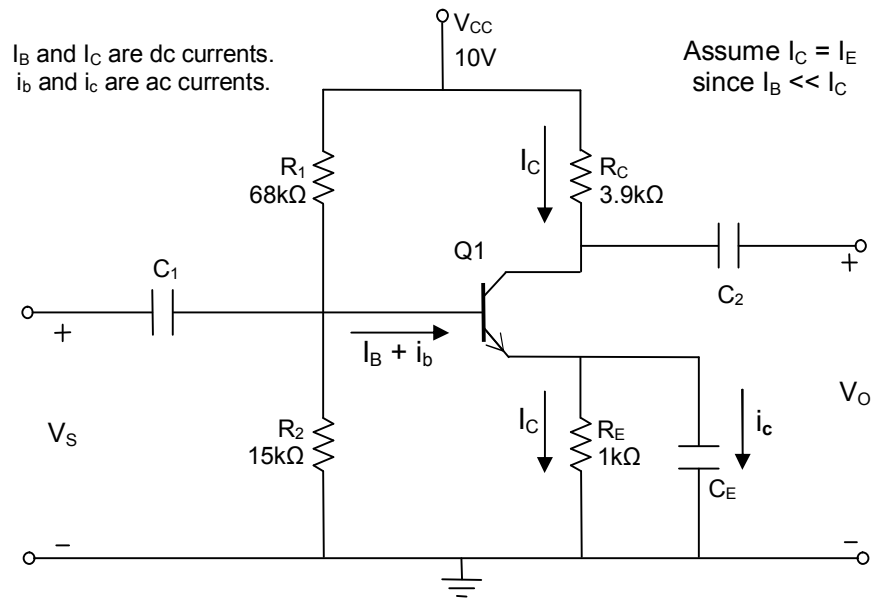

Figure 7.1: Common-emitter circuit with emitter bypass capacitor
- Perform B2 Spice simulations of the circuit shown in Figure 7.1, using the resistor values given and with extreme values of the resistors  $R_C$  (1k $\Omega$  & 20k $\Omega$ ) and  $R_E$  (200  $\Omega$  and 10k $\Omega$ ) , both with and without capacitor  $C_E$ . You should end up with ten different simulation graphs with the following resistor combinations:
Figure 7.1 shows a schematic diagram of a BJT common-emitter (CE) amplifier circuit. BJT transistor amplifiers are frequently used in the common-emitter configuration (CE), since this design gives both a high current gain ( $A_I$ ), and a high voltage gain ( $A_V$ ). Experiment #6 explored the dc and ac characteristics of the common-emitter circuit and how changing the Q-point affected circuit performance. You will study how the voltage gain of the circuit is affected by changing the values of the emitter and collector resistors. You will see how input signals can lead to distorted output signals as the gain and Q-point change.